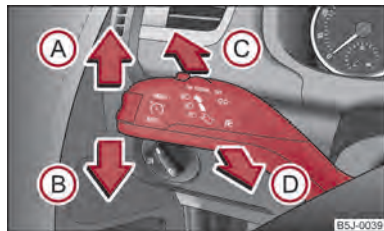

Fig. 26 Turn signal and main beam lever
- Push the lever upwards (A) or downwards (B) ⇒ fig. 26.